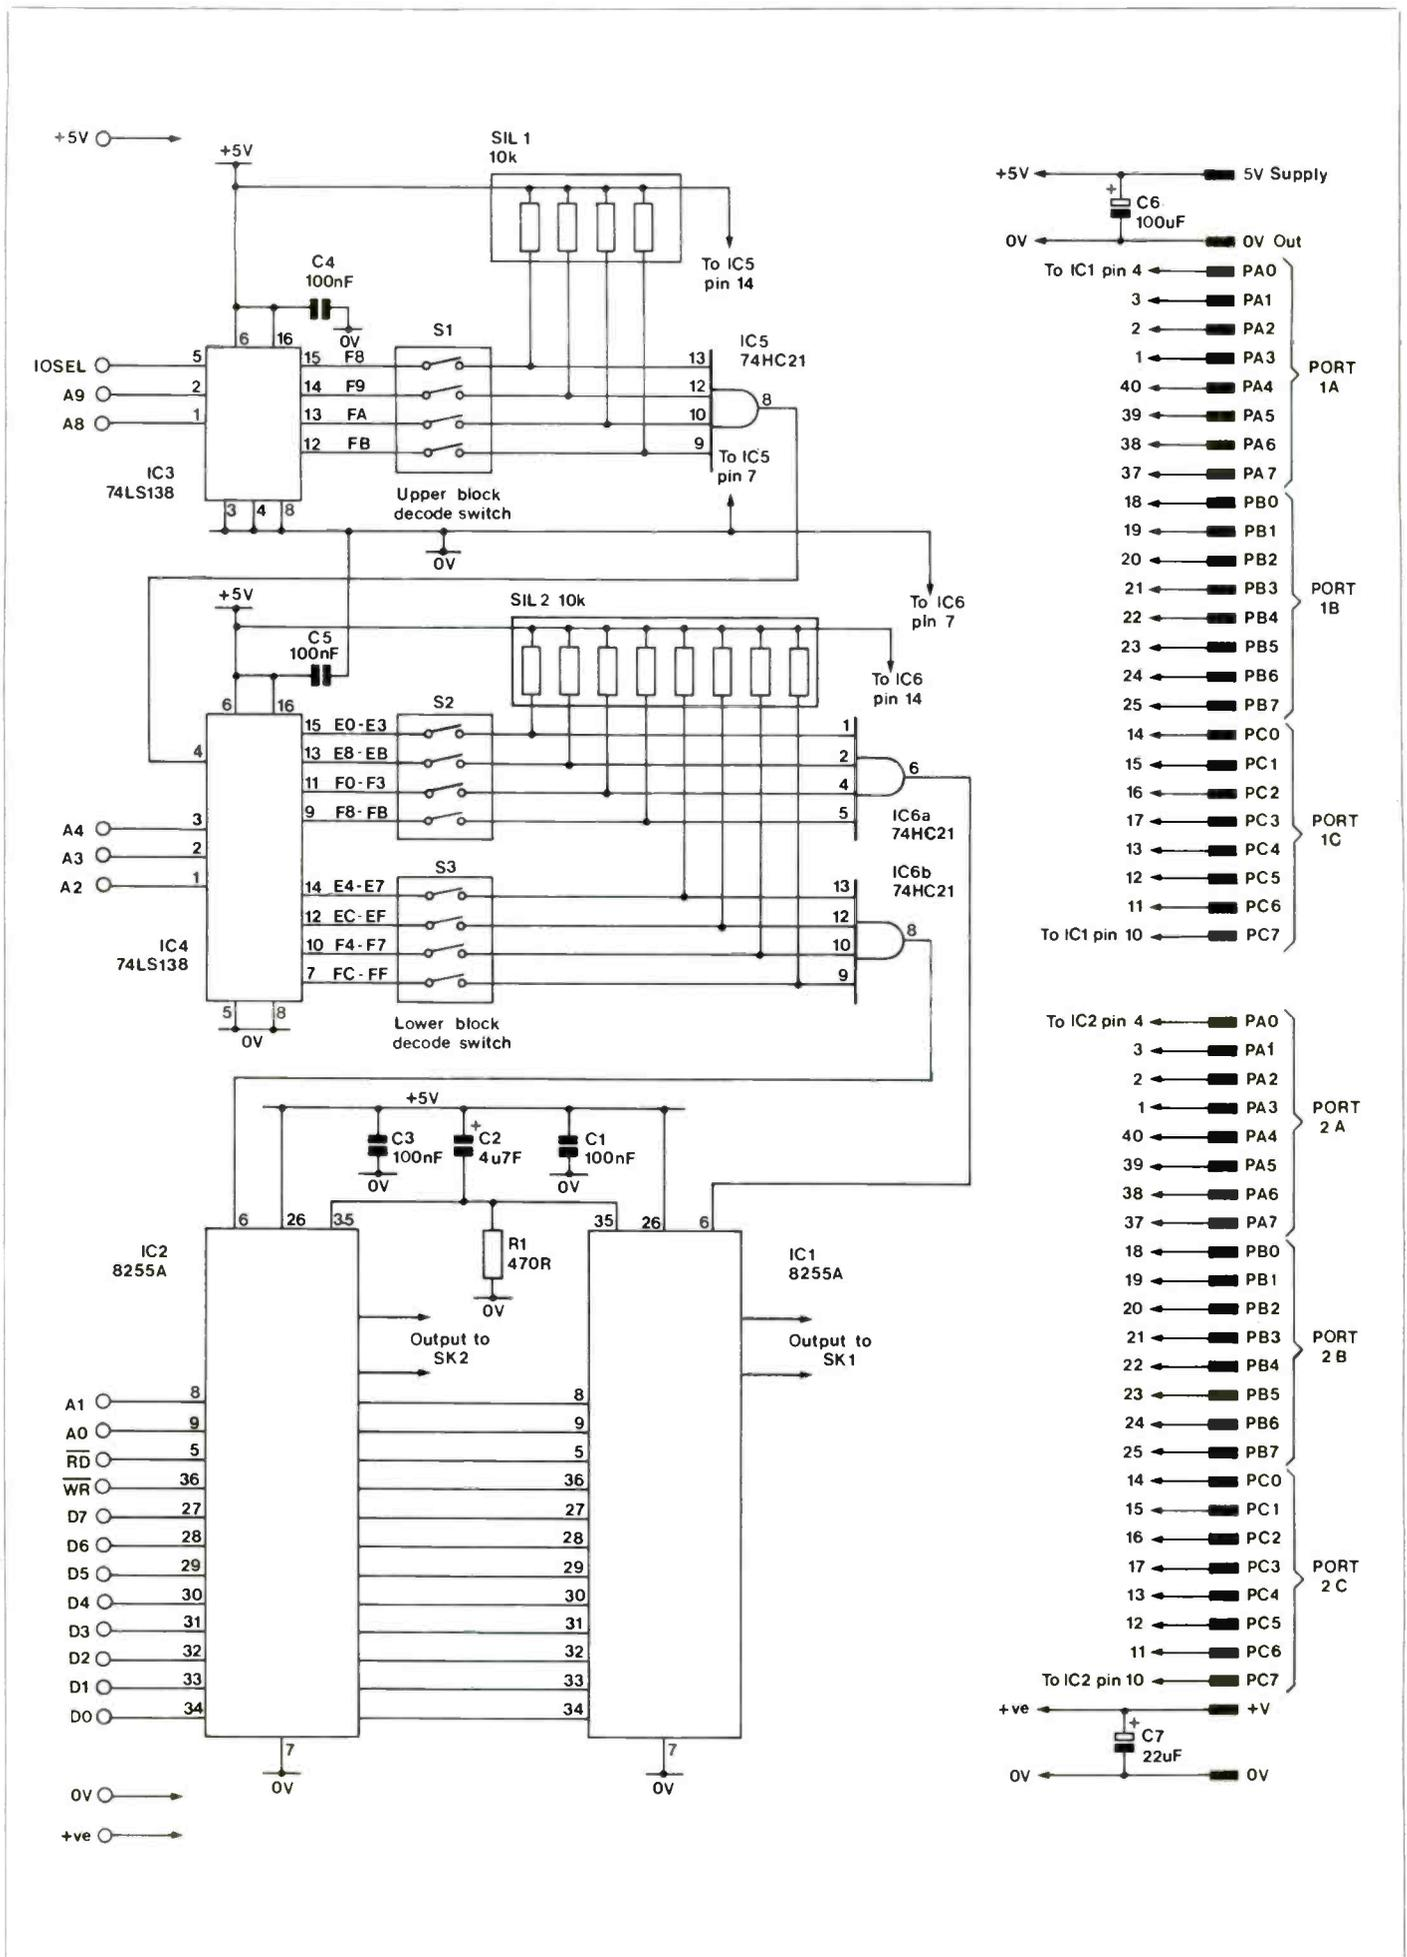

Figure 1. 6 x 8-bit Port Circuit
Figure 1 shows two 8255A (P.P.I.) devices, IC1 and IC2. Both devices are fully programmable for a variety of I/O functions, and contain four main registers each. In each case address lines A0 and A1 determine which 8255 register is accessed, with the RD and WR lines controlling data flow into or out of the register via data bus D0 to D7. IC3 and IC4 decode address blocks allocated by the Amstrad, and enable IC1 and IC2 at the correct time. IOSEL, A8 and A9, are decoded by IC3 to produce upper byte values (Hex) F8, F9, FA and FB. Any combination of values can be selected by switch S1, to produce a negative or active low (\bar{E}) pulse from IC5 to IC4 pin 4. Similarly, IC4 decodes lower byte values from A2, A3 and A4, being selected by switch S2 and switch S3. Again, any combination of 1 to 4 switches can be selected to produce a negative (CS) select pulse from IC6 to IC1 and IC2. R1 and C2 produce a short positive pulse when the supply is first connected. This pulse RESETs both PPI's by clearing their control registers, thus setting all ports to the input